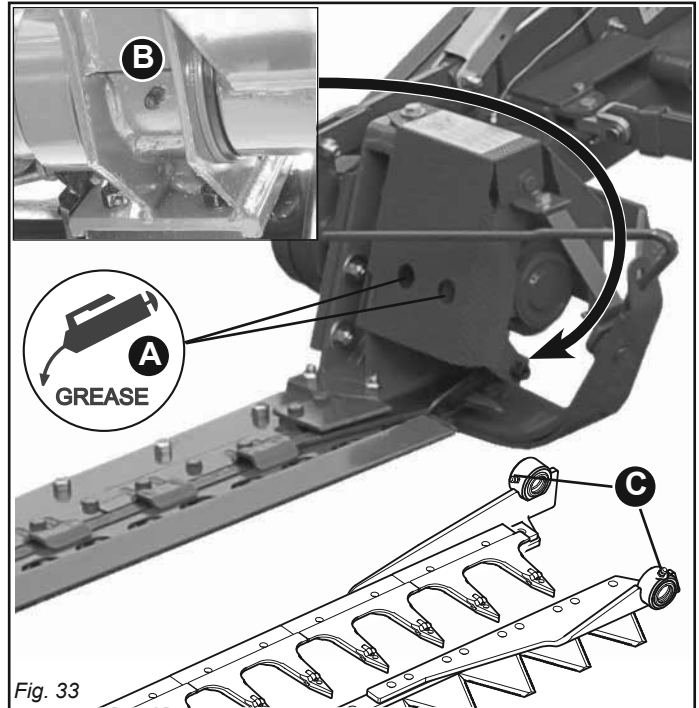

Fig. 33
- Grease points (A-C, Fig. 33).
- Grease point (B, Fig. 33).
Every time the expansion pins are disassembled and reassembled, one must grease the blade head concerned (C, Fig. 33).